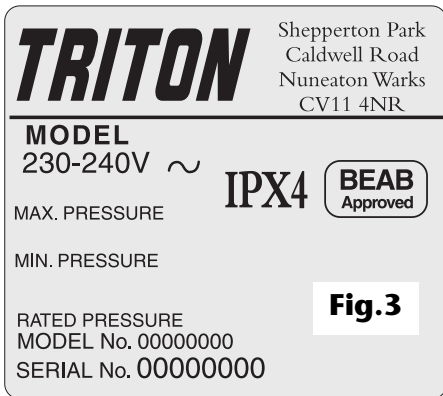

Fig.3
- 1.1** The electrical rating of the shower is shown on the rating label (**fig.3**) within the unit.